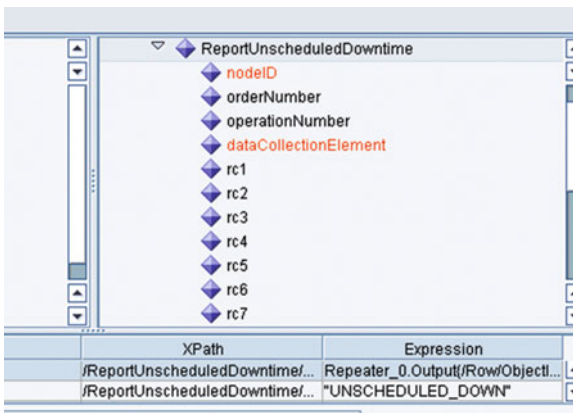

Figure 7-21. OEE service interface: ReportUnscheduledDowntime
5. Get the tag value from the PCo notification XML to check whether the event is for the machine's being up or down. If the event is for machine down, then execute the SAP OEE service interface ReportUnscheduledDowntime and pass the inputs as shown next. Refer to Figure 7-21.